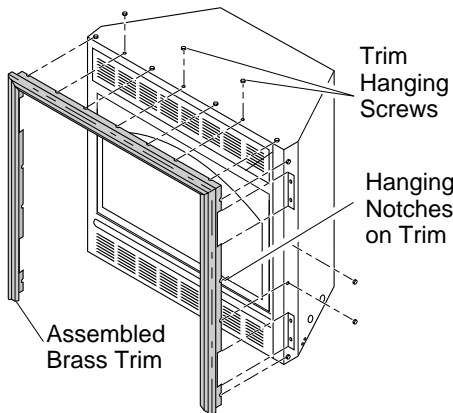

Figure 7 - Attaching Brass Trim to Fireplace
- Tighten trim hanging screws (#10-16 with .25 shoulder) into holes in cabinets. Place the assembled trim onto fireplace cabinet. Align hanging notches on trim with hanging screws on side of fireplace (see Figure 7). Push trim firmly into place, sliding hanging notches over hanging screws.
- Install brass trim after final finishing and/or painting of wall (see Figure 7, page 8).